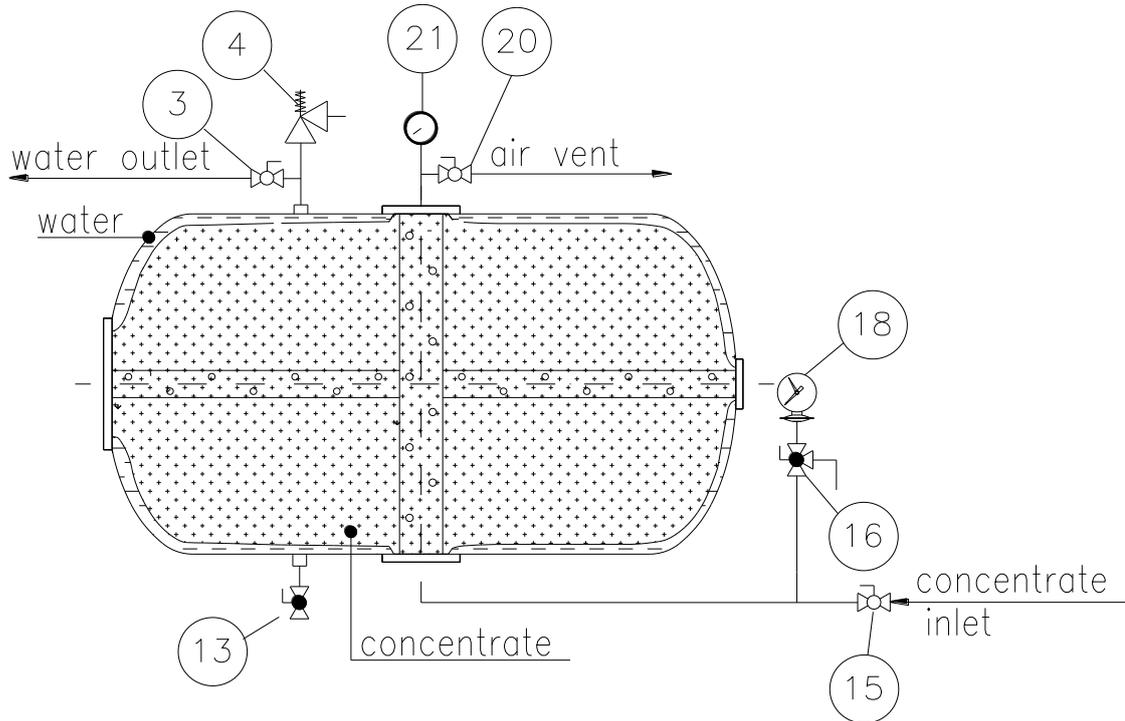

Figure a.9
14. In case of total capacity filling (see fig. a.9): continue pump the concentrate into the tank until the water is discharged through the valve (3) and the concentrate is discharged through the valve (20), always making sure that the pressure is less than 1 kPa. At this moment, close the valve (20) and slowly continue filling, discharge the water trough the valve (3) until the concentrate pressure reach the max value of 1 kPa.